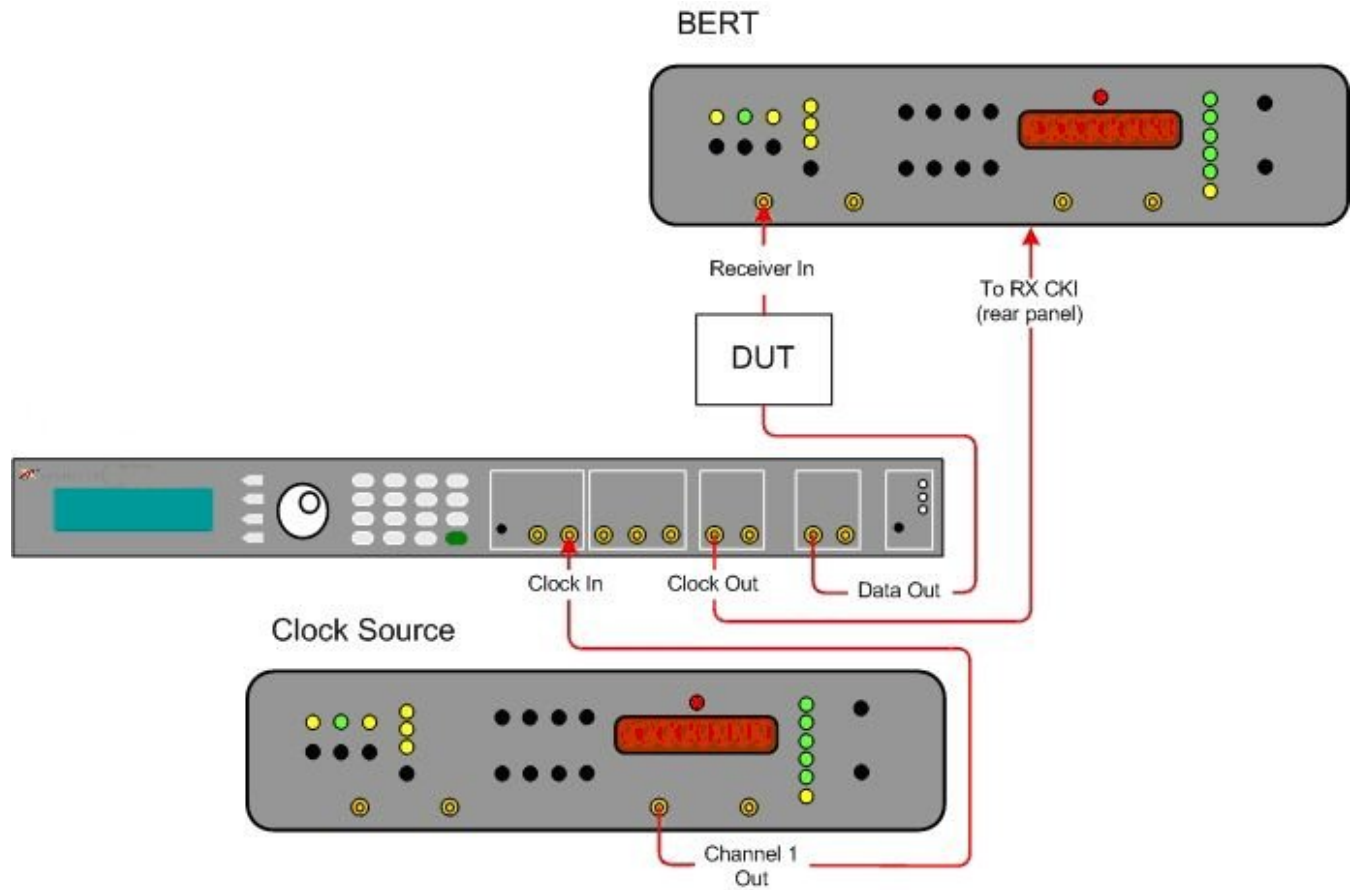

Figure 24. BER setup
1. Connect the N4971A to a clock source and a BERT as shown in Figure 24. Tighten cables to 8 lbf-in (90 N-cm) and use 50 Ω terminations on all unused ports.